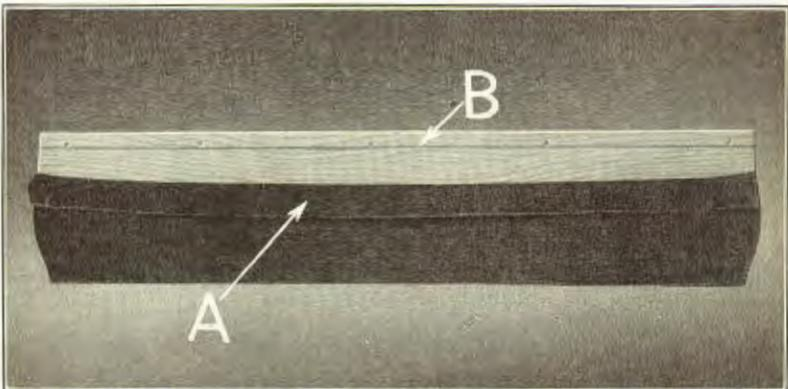

Fig. 573
1270 Withdraw tacks from edge of fabric on spacer board where spacer block was withdrawn and fold the fabric back as shown at "A" Fig. 573. Mark off a section 2" in width extending the full length of the spacer board as shown at "B," and saw it off. If an owner is unusually stout and requires a larger amount of space between steering wheel and seat back, an additional 2" can be cut from the spacer board.
- 1273** After cutting down the width of the spacer board, drill five new holes in spacer board for the five wood screws which hold block to board. Smooth out the fabric on the board (see "A" Fig. 573) and tack it securely to spacer board. Any excess fabric can be cut off with a pair of scissors or a sharp knife.